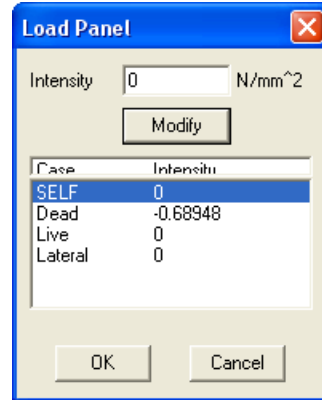

Figure 6-3 Snap dialog box
- From the **Options** menu, choose **Snap**. The dialog box of Figure 6-3 appears.